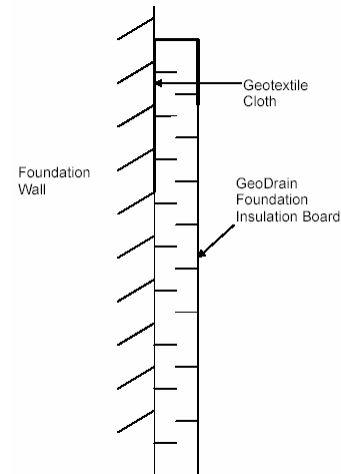

Figure 1 - Geotextile Filter Cloth Detail
2. Attach a geotextile filter cloth to the foundation wall so that its bottom edge is approximately 450 mm (18") below the expected finished grade. Allow sufficient length of geotextile so that it can be draped over the top edge of the GeoDrain board and will extend over the exterior face of board to approximately 300 mm (12") below grade (see Figure 1).